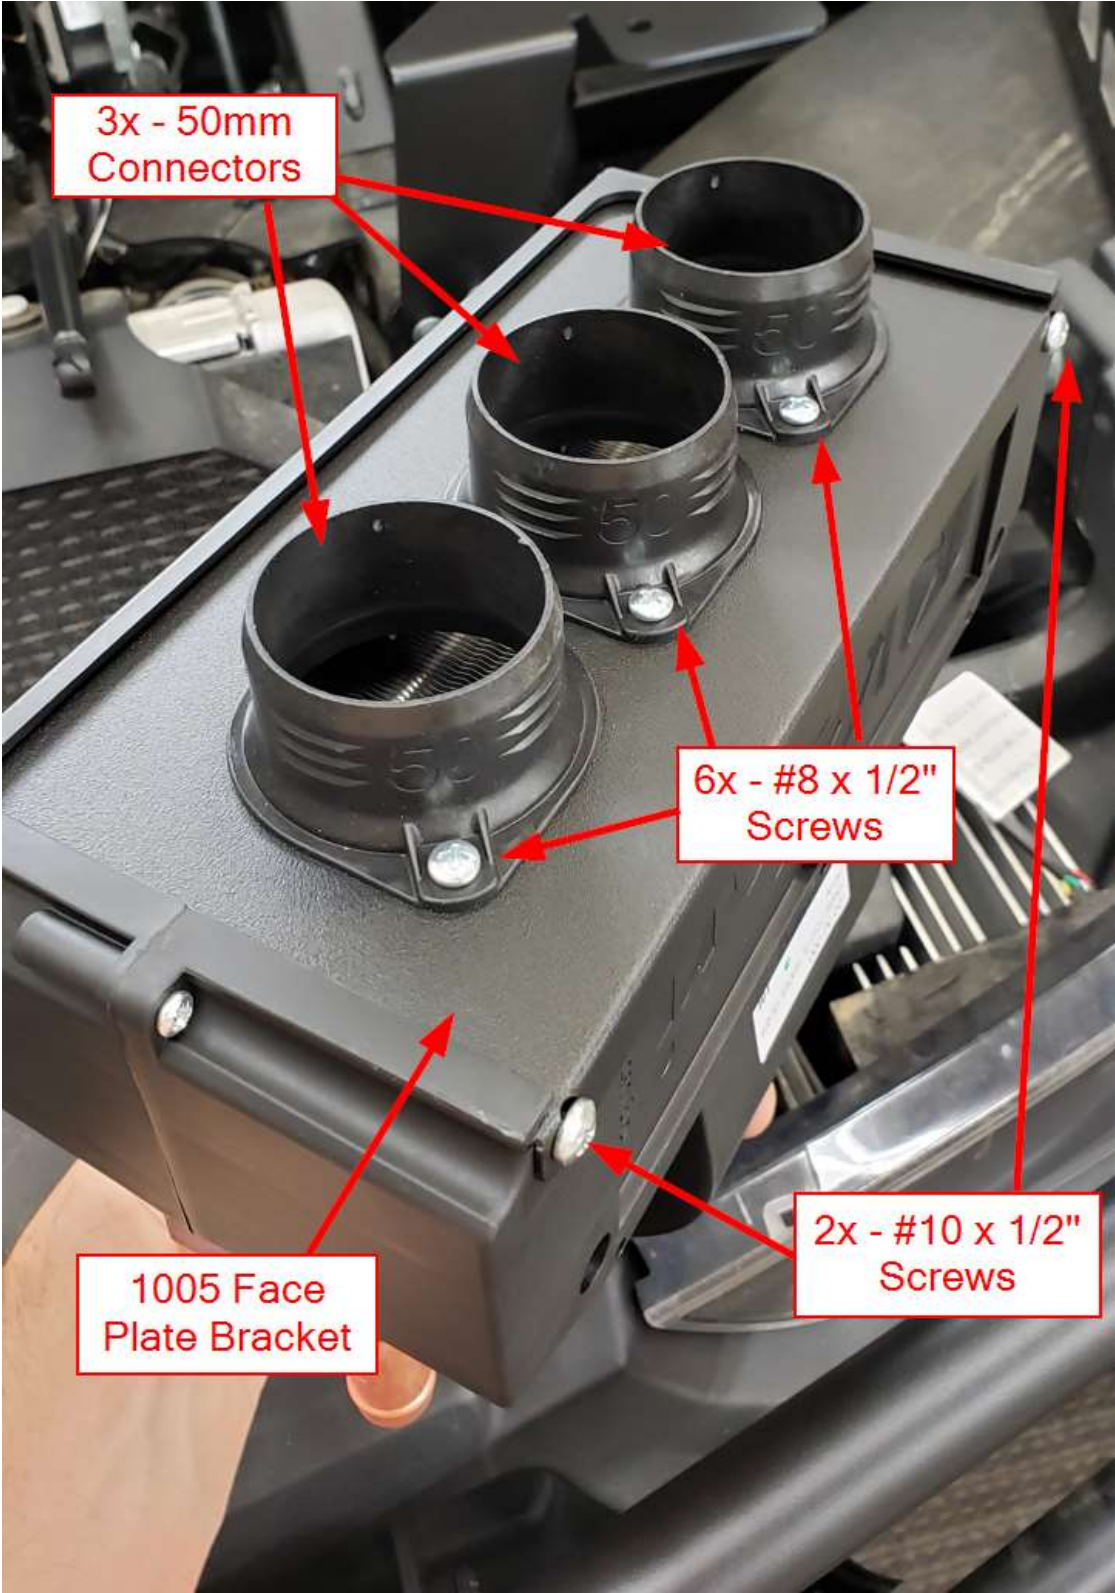

Figure 15
- e. Assemble the heater ports using the #1005 Face Plate Bracket, 50mm Connectors, #8 and #10 screws as shown in Figure 15.